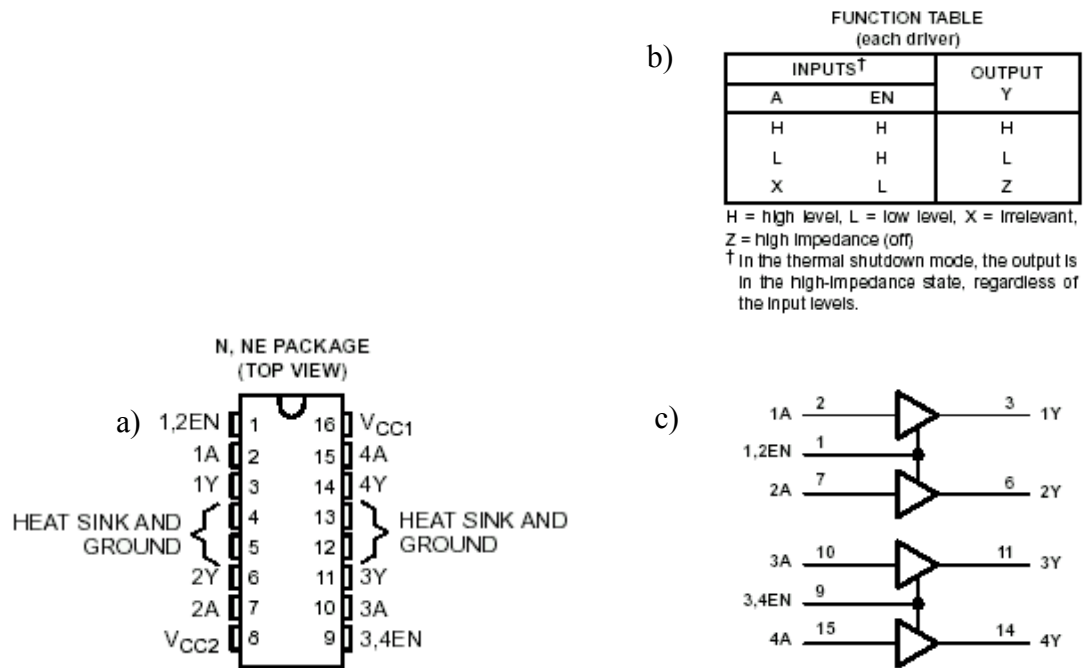

Figure 1. L293(D) a) Pin Layout b) function table c) logical diagram
The pin layout of L293(D) is given in figure 1.a. As mentioned in the data sheet, L293 is a quadruple half H-drive.
Simple math tells us that 4 half bridges should make 2 full bridges, where a full bridge can control the current over an inductive load in both directions! Hence, using two full bridges, you can interface two motors to L293D and control both the speed and the direction of rotation of them. The pin layout of the IC is organized nicely so that each half bridge is located towards opposite corners if the plastic package. Half bridges on the same side are connected through a common enable pin by the use of which you can create a full-bridge if needed. The functional table that is given in figure 1.b. If the bridges are enabled, the logic value at the input pins (A) are reflected to the corresponding output pins (Y). In case the pins are disabled (by pulling the enable pin to low), the outputs are inhibited.